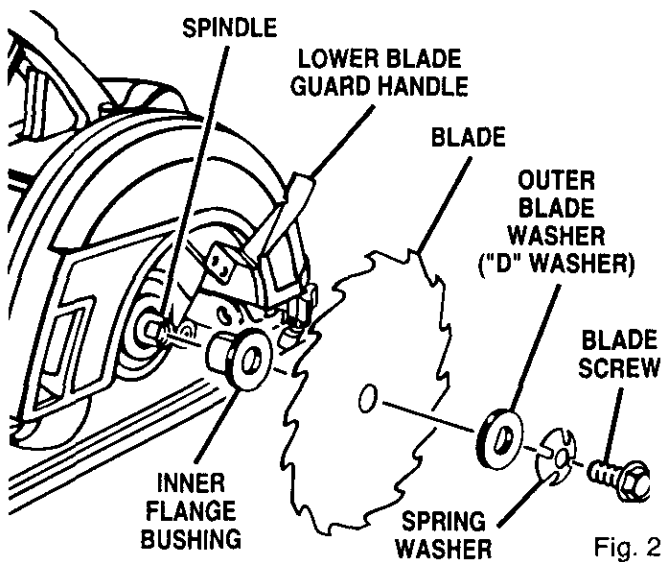

Fig. 2
- Remove blade screw, spring washer and outer blade washer ("D" washer). See Figure 2.
- Fit saw blade inside lower blade guard and onto spindle. **Note:** The saw teeth point upward at the front of saw as shown in figure 2.
- Remove spring washer and outer blade washer ("D" washer). See Figure 2. **Note:** Blade can be removed at this point.